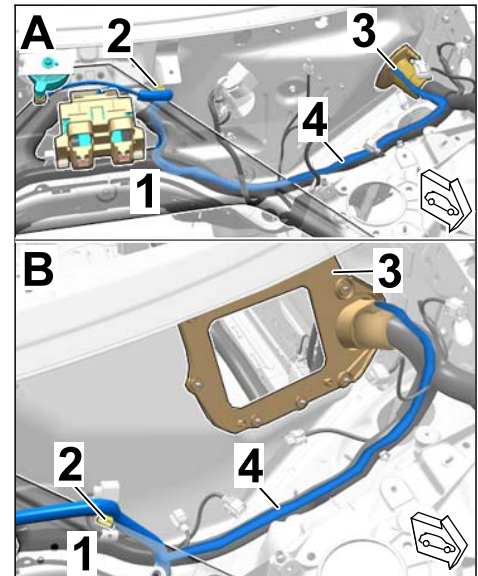

Figure 18
2.3.2 Lay the wire harness for the engine noise to the grommet on the bulkhead (in the A-pillar plenum panel area – left (⇒ *Figure 18*):